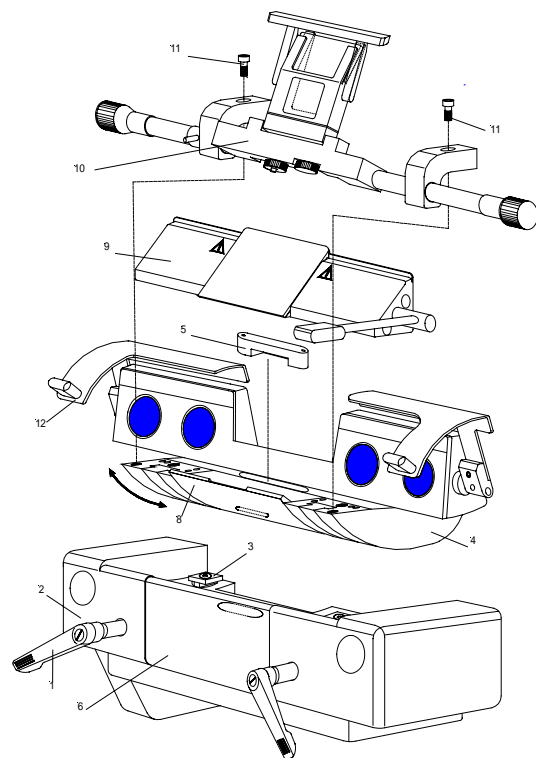

Fig. 63b
- Fasten the anti-roll guide (fig. 63b.10) for the disposable blade holder SE via the screws (fig. 63b.11).
- Tilt the knife guards (fig. 63b.12) upwards and place the disposable blade holder SE (fig. 63b.9) against the holding surfaces.
A complete and secure fixation is only achieved, when the knife guards (fig. 63b.12) are put over the disposable blade holder SE (fig. 63b.9).
- Adjust the anti-roll guide (fig. 63b.10) onto the disposable blade holder SE.
Before inserting and clamping the blade into the disposable blade holder SE, left knife guard for the fixation (fig. 63b.12) must be placed over the disposable blade holder SE on the left side. This way, the disposable blade holder SE does not tilt to the right side when clamping the blade.